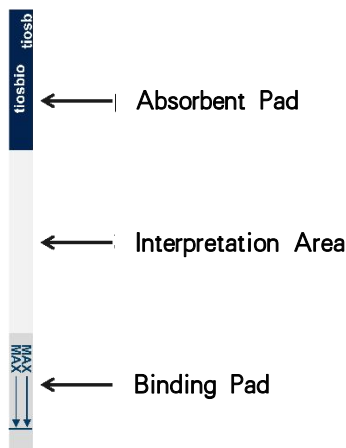

Figure 1 Schematic diagram of the structure of a disposable nucleic acid detection test strip
1. Take out the corresponding number of test strips according to the number of test samples, and mark them on the absorbent pad (Figure 1). Each test strip can only be used for an one-time single sample test. When the volume of the amplification product is between 50-100μL, the nucleic acid product can be detected directly in the 200μL PCR reaction tube. When the amplification product is less than 50μL, it is necessary to add ultrapure water to the
2. After PCR, RPA or RAA products are added to the CRISPR system, open the PCR reaction tube and insert the binding pad end (arrow end) of the test strip into the PCR reaction tube (Figure 1). The liquid level must not exceed the top of the binding pad. After the reading area is fully saturated (about 1-2 minutes, when the external environment temperature is low, such as winter, the water absorption speed will be reduced, and the saturation time of the reading area will be prolonged), and after the color of the quality control line (C line) emerges, take the test strip out. Read the test result directly according to the color development of the test strip.